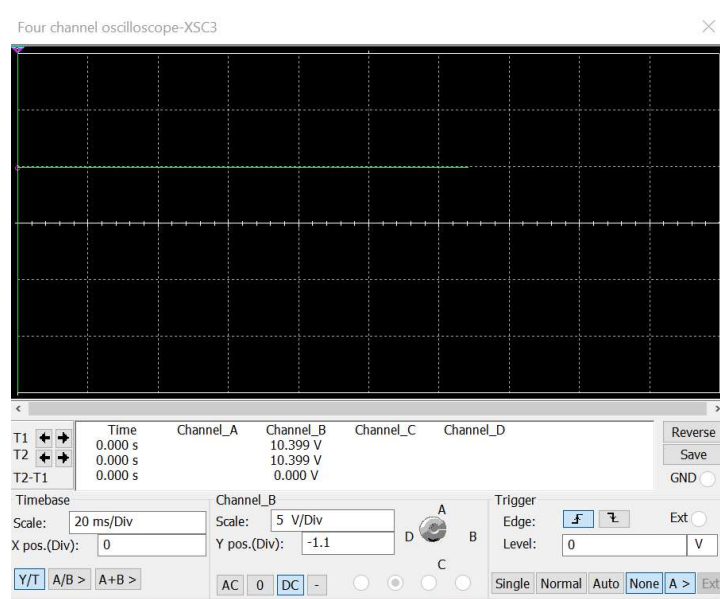

Fig. 14: DC Output of the PI Controller
Explanation: In Fig. 14, the DC output is constant at 10.399V DC (cannot get to the op-amp supply voltage to avoid saturation) since there is no change in the process variable (PV) which is being monitored, in this case the DC motor speed. It remains at this point as there is no change in the PV (motor speed).